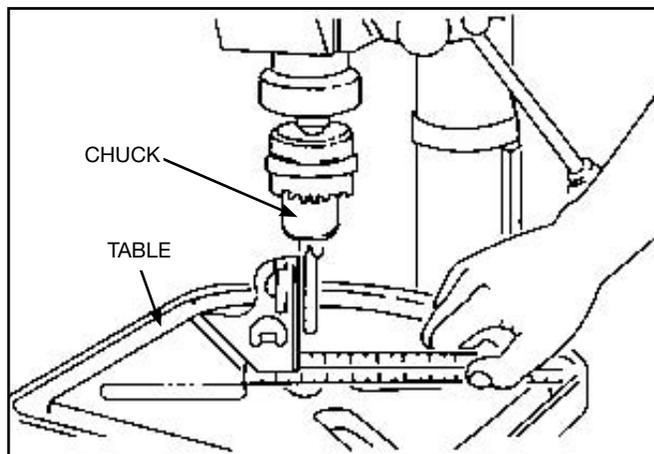

FIGURE 21
6. Retighten set screw. See figure 21 and 22.